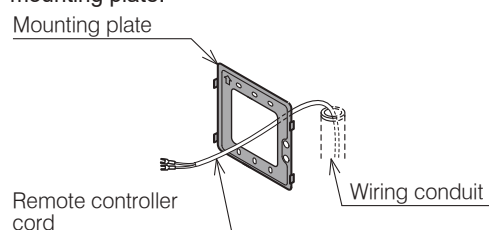

Figure 7-2: Wiring hidden
1. Before starting the remote controller installation, pass the wiring conduit through the inside of the wall (refer to Figure 7-2).